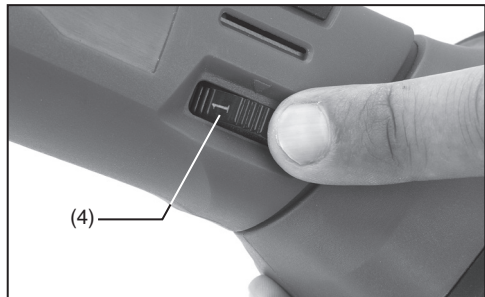

FIG. 9
6.5 USING THE VARIABLE SPEED CONTROL – FIG. 9